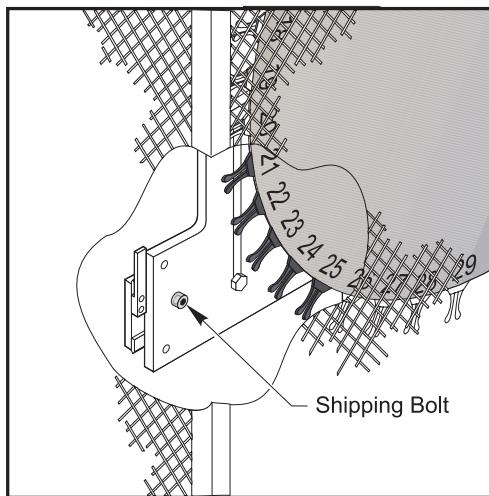

Figure 3.8-11
1. Remove the tool changer's shipping retainer bolt. Refer to Figure 3.8-11.